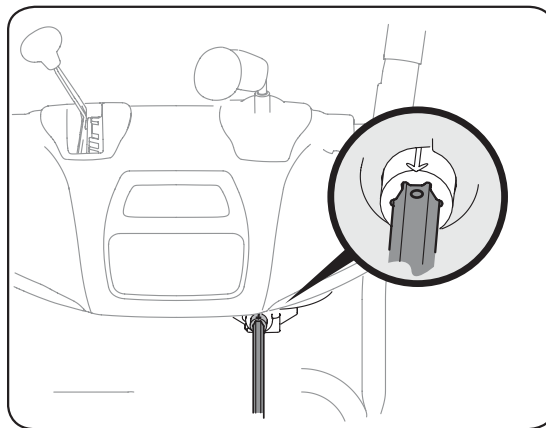

Figure 3-8
6. Insert the hex end of the rod (hole pointing upward) into the pinion gear. See Figure 3-8.